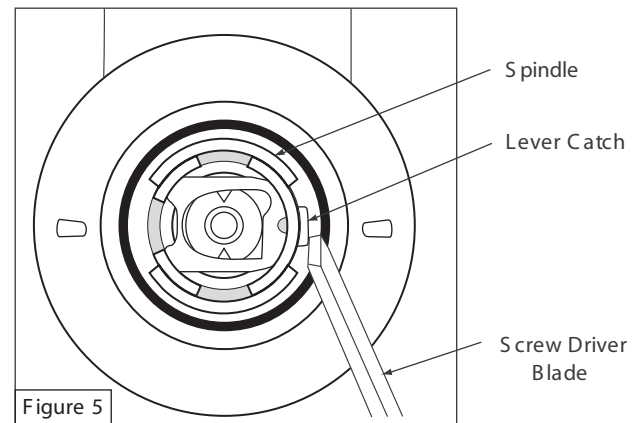

Figure 5
4. Align lever catch to face latch front (see Fig. 5).